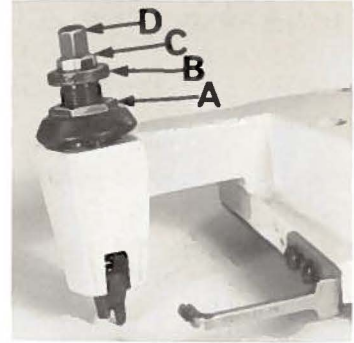

Fig. 2
Sufficient presser foot pressure to feed work uniformly should be maintained. Should it be necessary to increase or decrease amount of pressure on presser foot, loosen lock nut (A, Fig. 2) and turn adjusting screw (B). Adjusting screw has a right hand thread, so tightening increases pressure, loosening decreases pressure. When pressure adjusting screw (B) has been properly set, tighten lock nut (A). With presser foot resting on throat plate, position locking nut (C) so that its under surface is approximately 1/32 inch to 1/16 inch from the top surface of adjusting screw (B). Set cap (D) against locking nut (C).